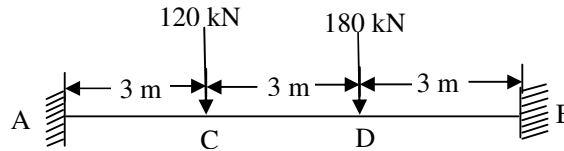

Figure 2
4. Analyse the fixed beam shown in the Figure 2.